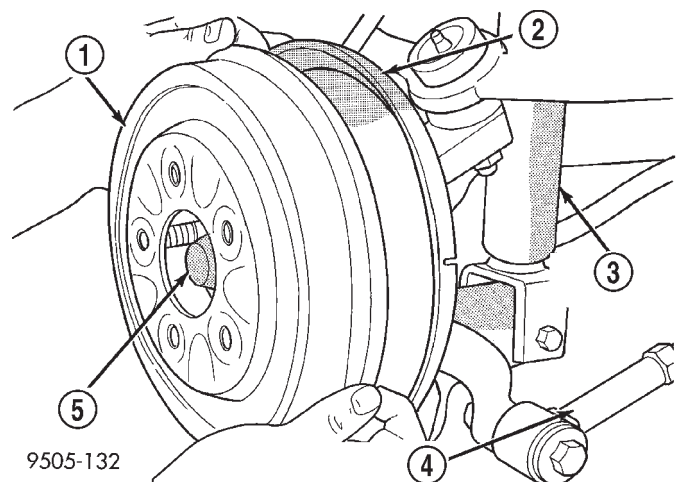
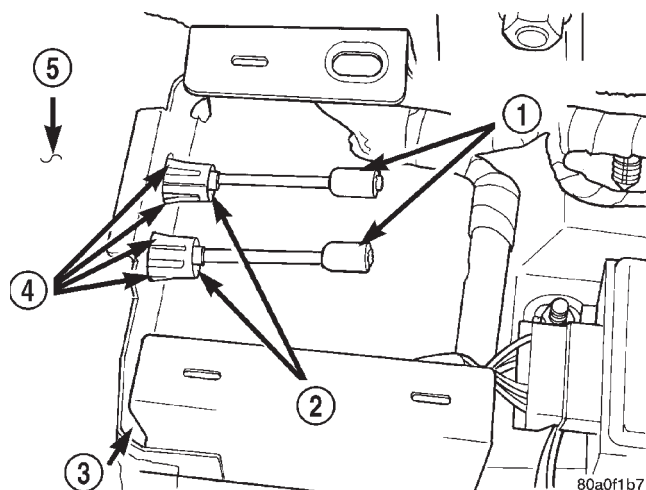

Fig. 142 Rear Brake Drum
Fig. 149 Park Brake Cables Installed In Console Bracket
(20) Remove rear wheel and tire assembly from the side of the vehicle requiring park brake cable service.
(21) Remove the rear brake drum (Fig. 142) from the rear hub/bearing assembly.
(8) Install the rear brake drum on the hub/bearing assembly (Fig. 142).
(9) Install rear wheel and tire assembly on vehicle. Tighten all wheel stud nuts in criss cross pattern to one-half specified torque. Then repeat pattern, fully tightening stud nuts to 135 N·m (100 ft. lbs.).
(10) Lower vehicle.
(11) Grasp park brake cable to floor pan seal grommet by hand and pull it into the floor pan to ensure seal grommet is fully seated into the floor pan.
(12) Route park brake cable under carpeting and up to park brake cable hole in console bracket on floor pan. Then install park brake cable into console bracket (Fig. 149). Be sure tabs (Fig. 149) on park brake cable retainer, have expanded out to hold park brake cable in console bracket.